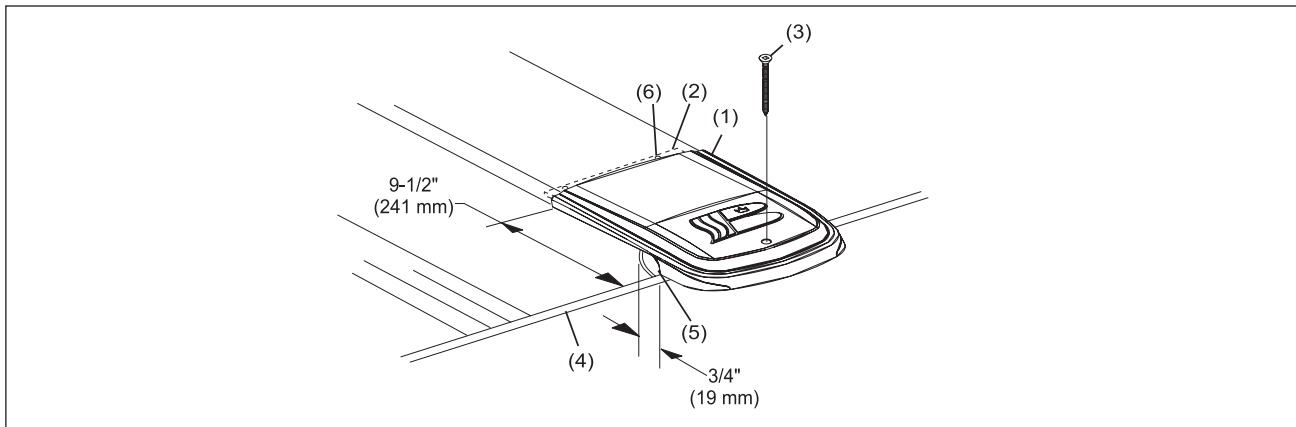

Figure 27. Ball Return Cover Installation
1. Center the ball return cover on the ball return capping. Refer to *Figure 27*.